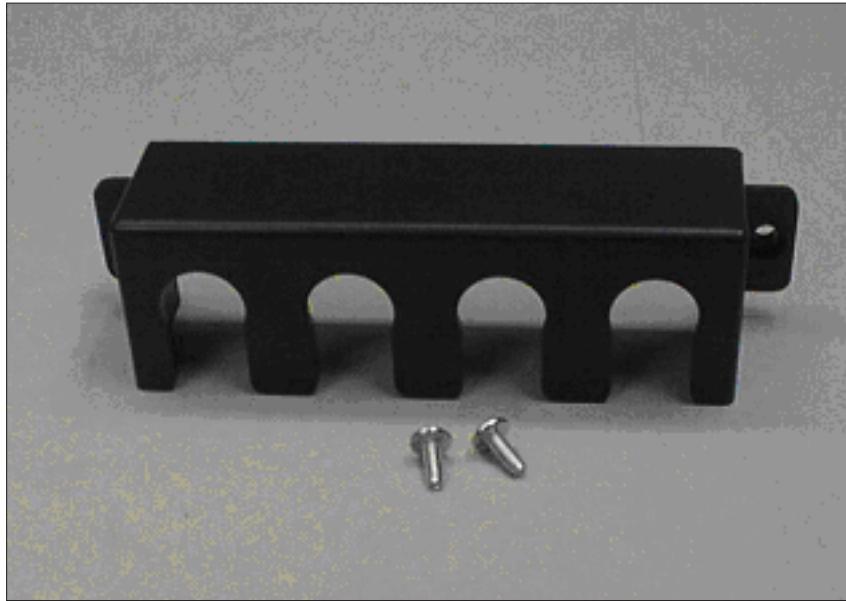

Figure 24. 2145 UPS-1U power cable retention bracket hardware
2. Remove the bracket and the two screws (shown in Figure 24 on page 48) from the packaging.